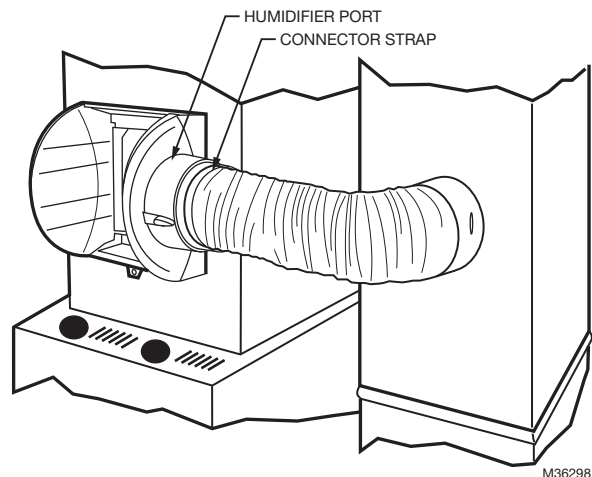

Fig. 6. Connecting bypass ducting.
9. Reassemble humidifier side plates to customize the orientation for your specific install. The side plate with the humidifier port needs to be on the side of the humidifier that is closest to the bypass ducting. Be sure to open the bypass flap for use and close it when the humidifier is not used. See Fig. 6.